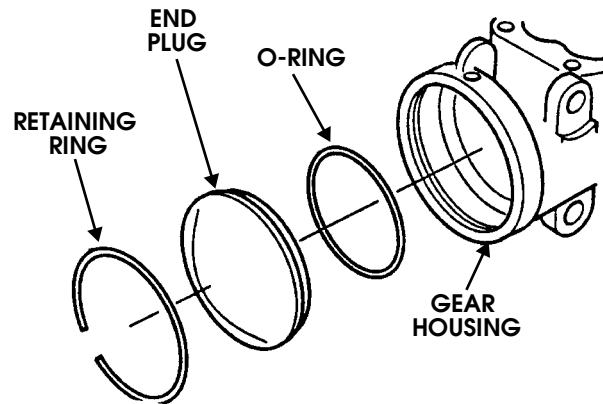

Figure 8-32: End Plug and Seal Removal
4. Remove end plug (Figure 8-32).
5. Remove O-ring seal from housing (Figure 8-32).